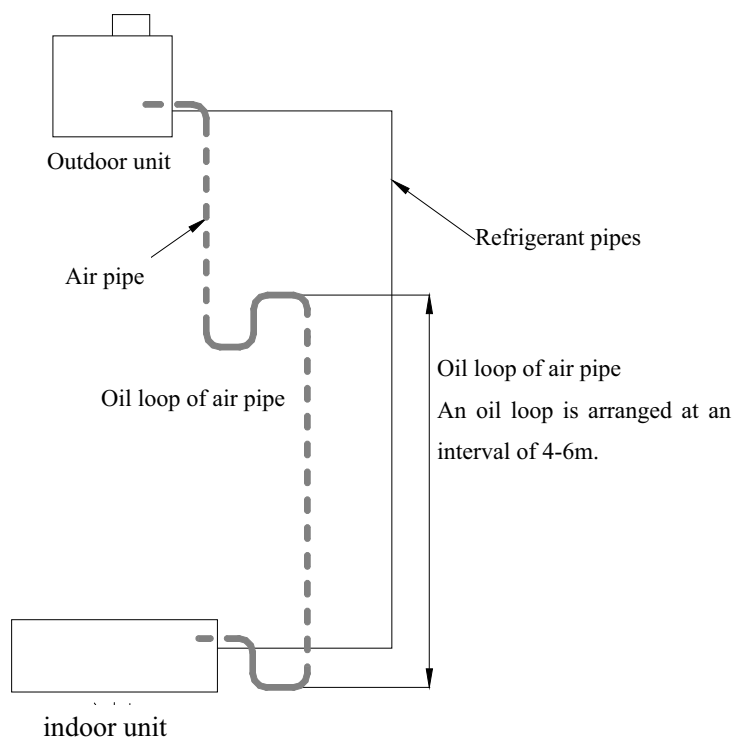

Figure 3-2-1
- ◆ If heights of indoor unit and outdoor unit are different, pipes should be laid out with reference to Figure 3-2-1.